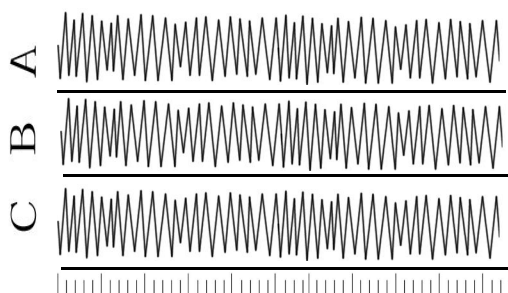

Figure 6.16
3. Possible waveform resulting from instrument self-excited oscillation(see figure6.16)